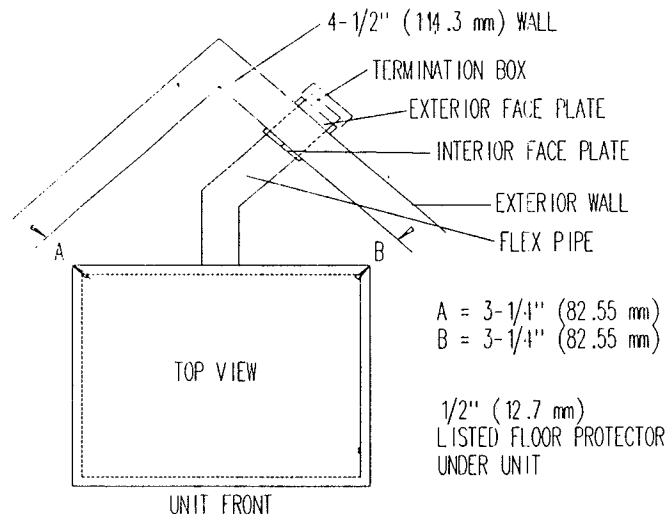

Figure 11
(1) Position unit and determine which side of corner your pipe will exit. Follow procedures 1-10 on pages 5-8 for through the wall installation. See Figure 11 for clearance from unit to combustibile wall.